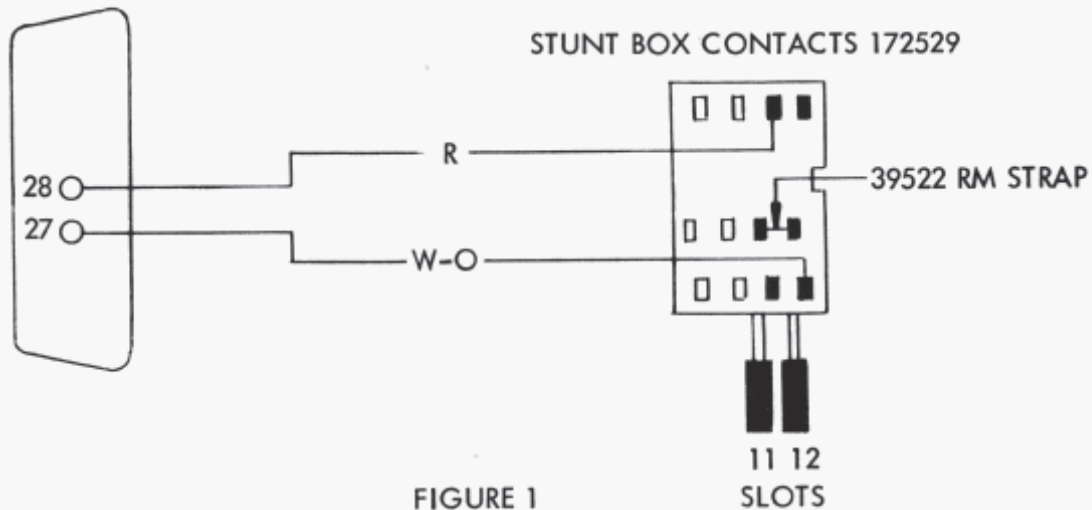

FIGURE 1
k. Untape the white-orange lead and red lead tied in the stunt box cable and wire to the switch assembly as shown in Figure 1.